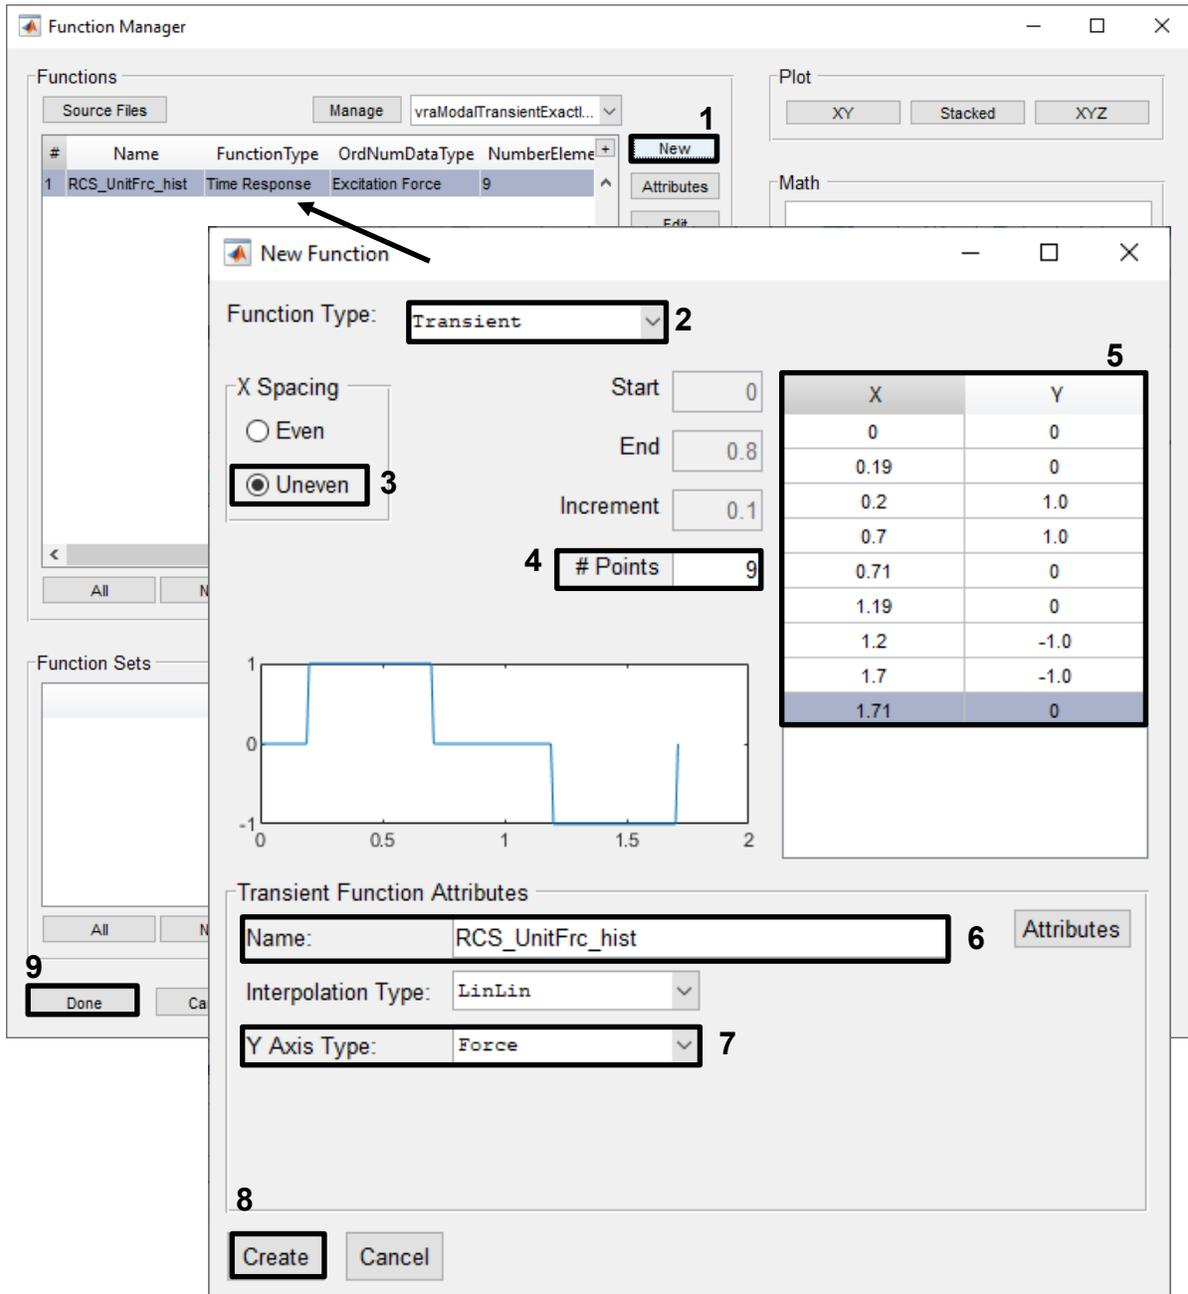
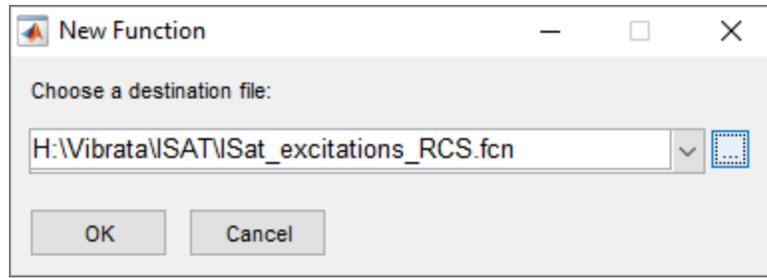

Figure 4-93. Thruster force transient for ISat maneuver.
Figure 4-94. Save the ISat thruster forcing function to a file.
5. In the Function Manager, you will create a time function to excite the ISat transient event. If you have already run the random examples in section 4.3.1, open the "ISat\_excitations.fcn" file used there; if that file does not currently exist, you will create it when you have finished defining the function for the current example. As shown in Figure 4-93, create a new transient function, set its Y-axis to *Force*, give it uneven X-spacing, and assign it the X and Y values shown. The pulses have unit amplitude; this will let us size the RCS thrusters just by scaling the excitations. Remember to give the function a recognizable name. Click **Create** to store the function to an *fcn* file (Figure 4-94). Click **Done** on the Function Manager to return